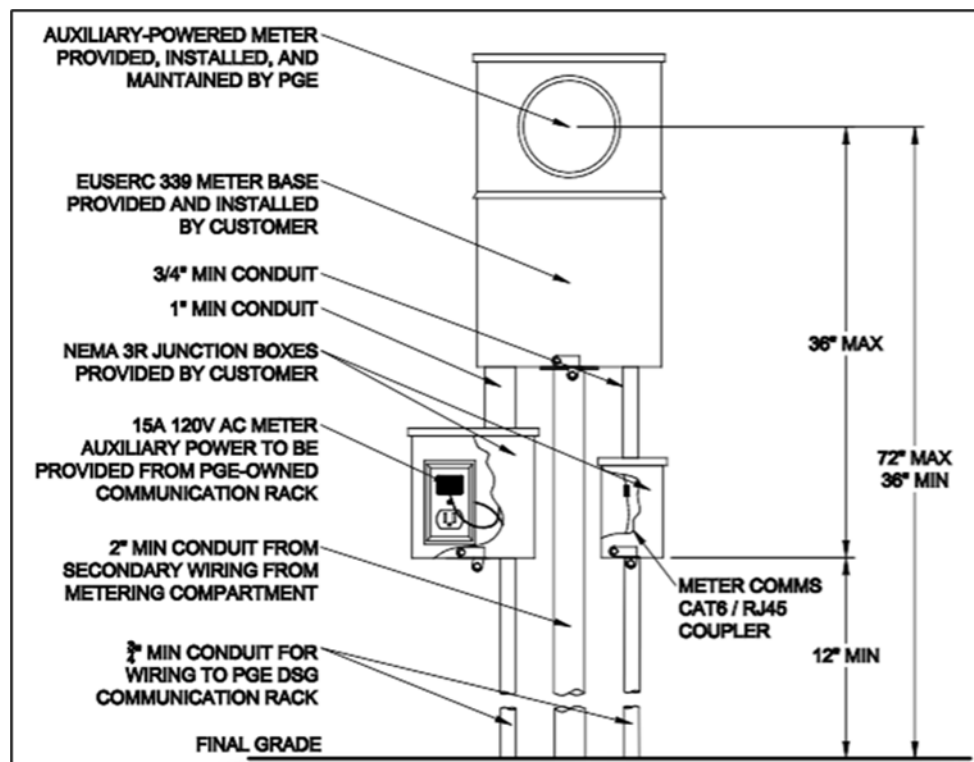

Figure 22. Remote Meter Configuration Used for DSG (STD-M-4001)
If a customer is participating in PGE’s Dispatchable Standby Generation (DSG) program or is a Qualified Facility (QF) greater than 3 MW, the customer is required to provide a remote meter enclosure with additional provisions for an Ethernet connection from the meter to the customer's local telecommunications point of presence. The customer is responsible for meeting PGE’s DSG communication requirements for real-time monitoring. DSG metering requirements are shown in Figure 22.